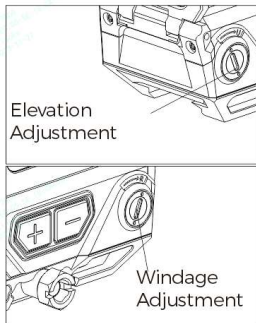

Figure10
- 3) The Elevation adjustment is located on the right side of the housing and the windage adjustment is located on the left side of the housing. Adjustments can be made using the included tools. (As shown in Figure 10)